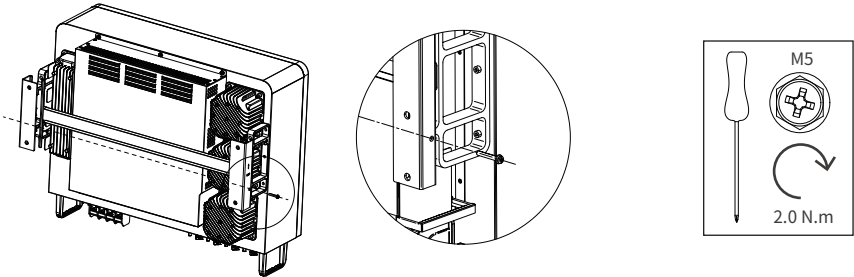

Fig.2.3 Installation of set screw
- Lift the inverter and align the rear bracket of the inverter with the convex of the mounting bracket. Hang the inverter on the mounting bracket and make sure it is secure (see Figure 2.3).